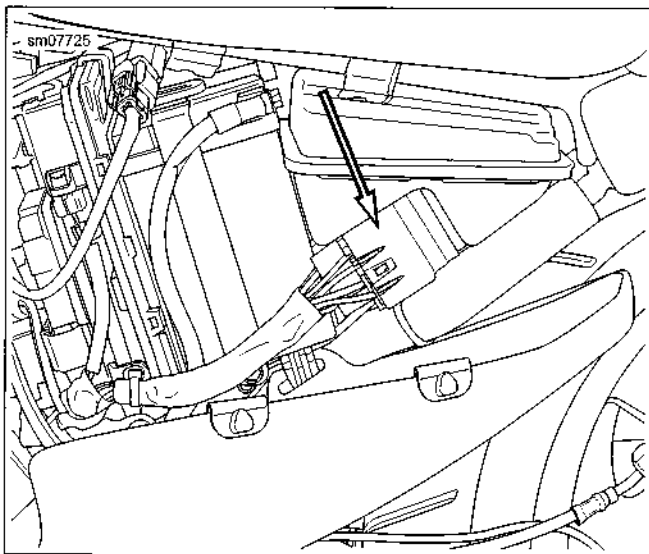

Figure 6-1. Fuse Block
1. See Figure 6-1. Open left side cover.